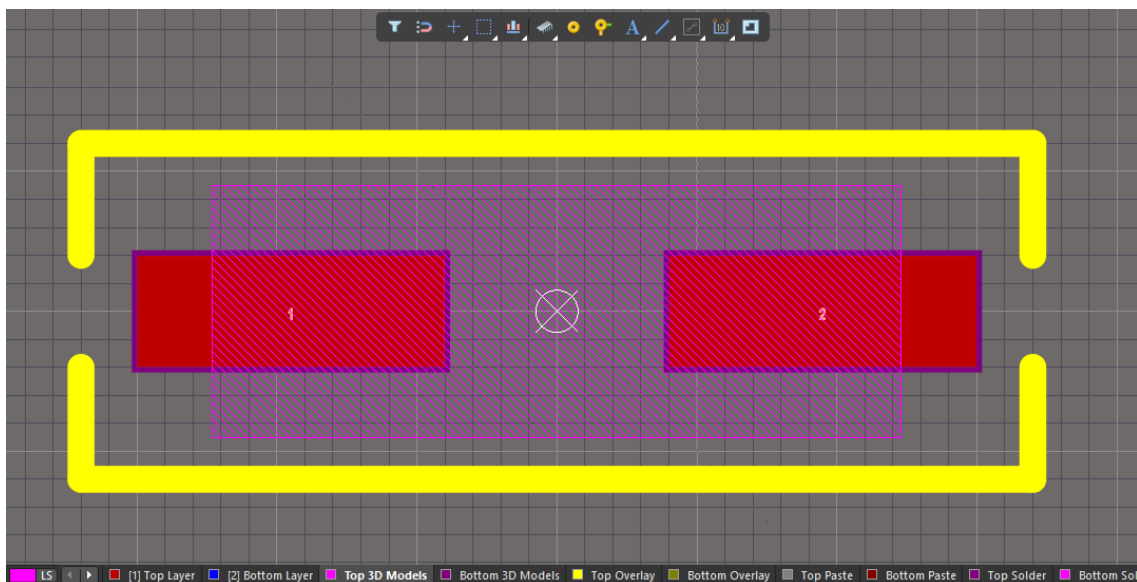

Figure 46. Copied outline
- Then, left-click to position the cursor on the origin so that the lines are now symmetrical below the pads as shown in Figure 46.